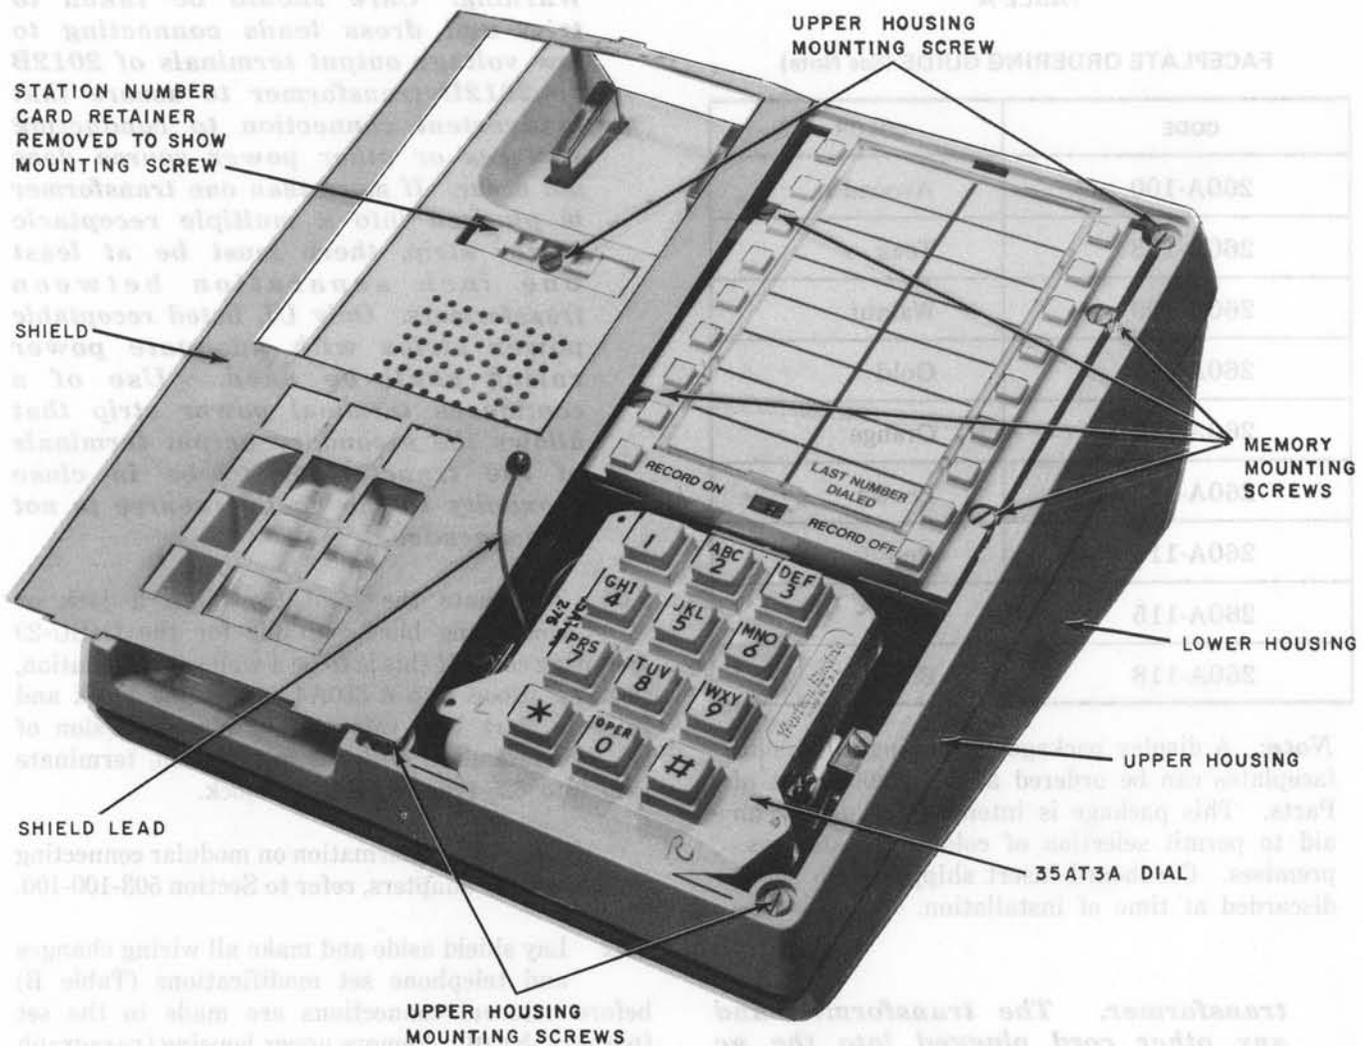

Fig. 4—2960A01M Telephone Set With Handset and Faceplate Removed and Shield Laid Aside
- 841417165 Shield and Lead Assembly (Fig. 4)
(4) Insert the three leads from the switch assembly between the circuit board and the chassis under the memory.
(5) Replace the lower housing and place the set upright.
(6) Remove faceplate (paragraph 3.15).
(7) Disengage the four captive memory mounting screws (Fig. 4).
- **Shield**—underneath faceplate and is positioned over the dial and memory (Fig. 4).
- **TOUCH-TONE Dial**—fastened by two screws and located on the top side at right-front corner of the chassis (Fig. 4).
- **Memory**—fastened by four screws and located just to the rear of the dial on the top right side of the chassis (Fig. 4).
- **Upper Housing**—fastened by four screws to the top side of the chassis (Fig. 4).